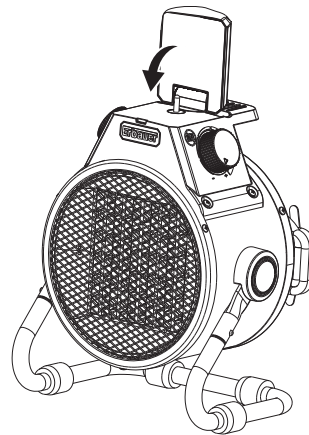

Figure 4
3. Reposition the light on the middle of its base and close the flap fully to turn off the light, like on figure 4.